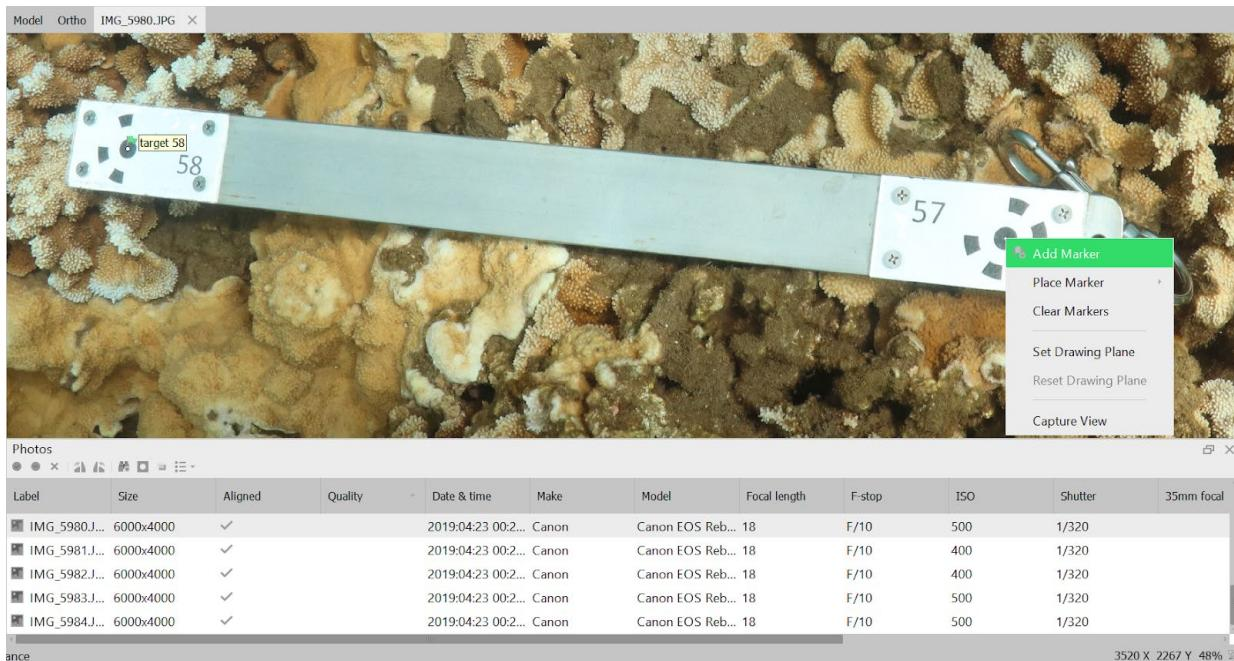

Figure 4.12 Add markers illustration.
2. If Metashape coded targets were not used OR the software did not detect them, select a photo from the photo pane with an object that can be used to scale images (or the markers themselves) and add a marker according to the following steps (Figure 4.12):